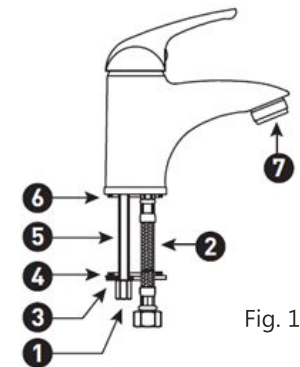
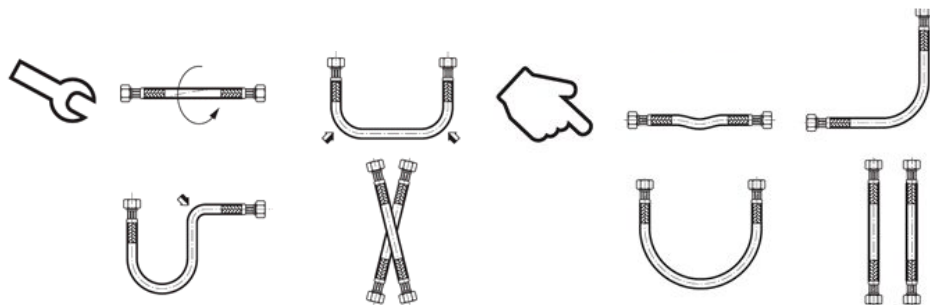

Fig. 1
Fig. 3
- The taps are installed with the use of the fixing set (see fig. 1),
- screw in the connection hoses (2) and the fixing screw to the tap (5),
- the connection hoses should be screwed in manually; up to the point when resistance occurs. Screwing in the hoses strongly with the use of a flat wrench can result in damage to the hoses. The hoses must be installed according to the pictures shown in figure 3,
- insert the tap with the bottom gasket (6) to the mounting hole,
- put the gasket (4) and the washer (3) on the fixing screw,
- screw in the fixing nut (1) on the fixing screw,